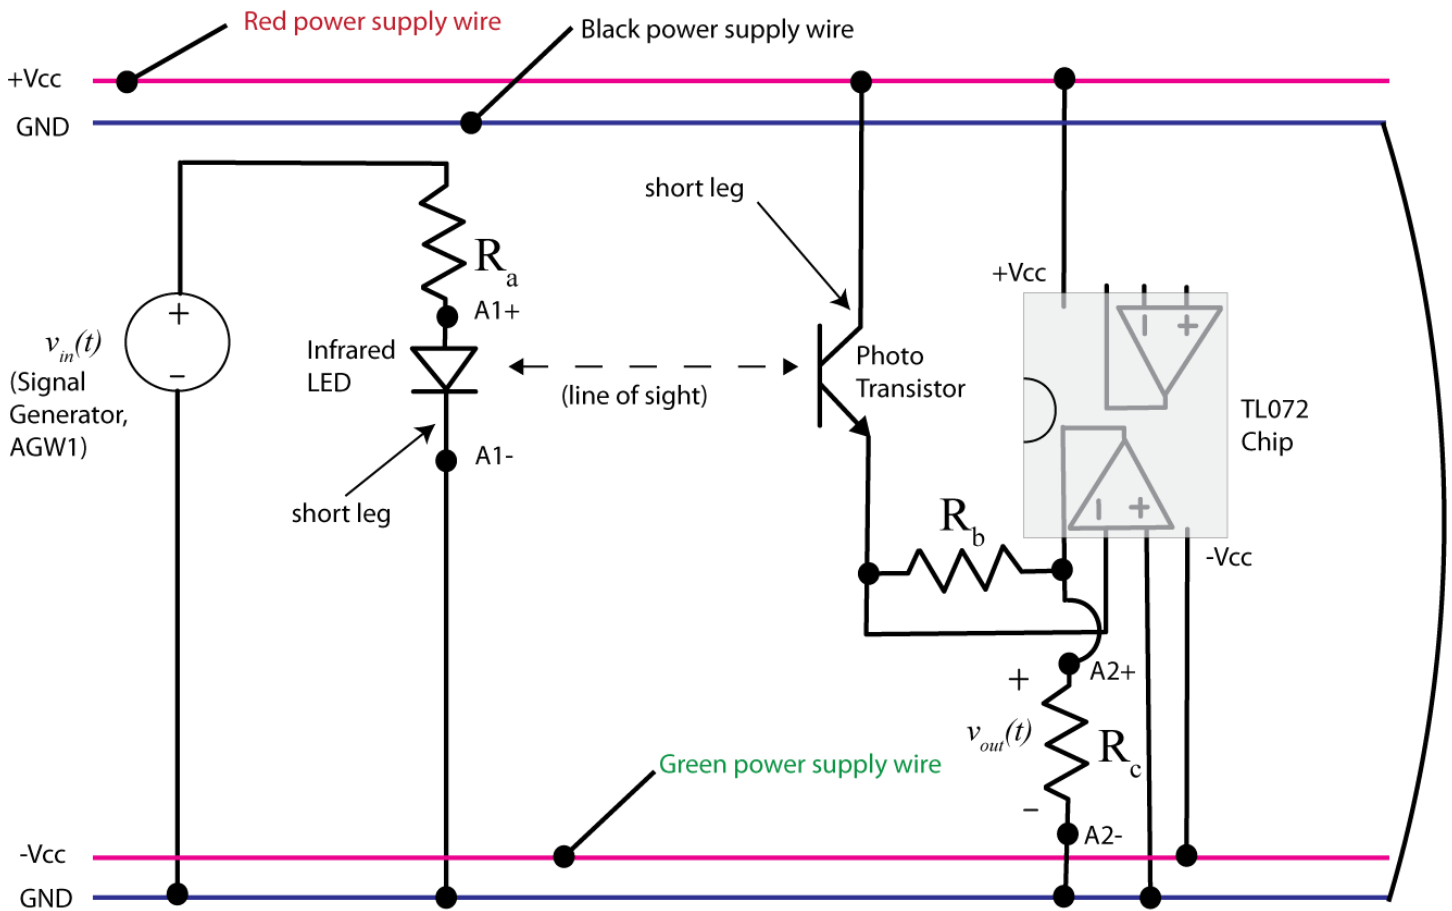

Figure 6. More detailed schematic of the optical transmitter and receiver.
Figure 6 shows a more detailed wiring diagram for building this circuit. You should lay out your breadboard in this fashion, with the red stripe at the top and the blue stripe at the bottom. Do not connect your external power supply to the system until you are all done. The top and bottom blue wires should be wired together, they serve as a common ground. The top red line will serve as the positive (+Vcc) voltage rail, and the bottom red line will serve as the negative (-Vcc) voltage rail.
1) First we will build the transmitter on the left of Figure 6. Use the infrared LED (the clear LED) and connect it to the Mobile Studio function generator through the $R_a = 50\Omega$ resistor. Be sure the function generator and the output of the LED are connected to ground. Try and build this as far to the left end of your circuit board as possible. Finally, connect A1+ and A1- to measure the voltage across the LED.
2) Next we will build the receiver, which should be built as far to the right as possible. Note that we are using an TL072 chip which includes two op amps on one chip. Be sure the dot on the chip is to the left (the semicircle on the drawing) and also to connect the power supplies correctly for this chip (they are different than for a 741 op amp!). Also be sure to connect the positive pin of the first op amp (the one we are using) to ground. Connect the rest of the circuit, using $R_b = 10k\Omega$ and $R_c = 1k\Omega$. Finally, the output of the receiver circuit is the voltage across the output resistor R_c , so connect A2+ and A2- as shown in Figure 6.